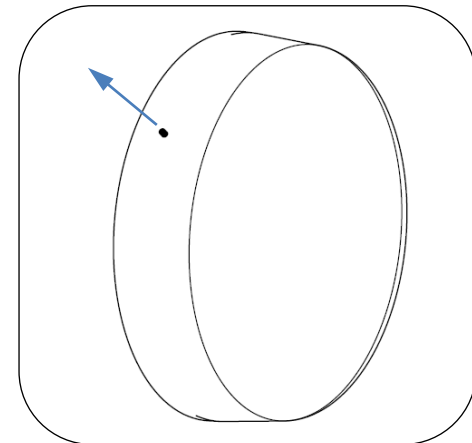

Fig. 2 – back out set screws
2. Remove luminaire dome, see Fig. 2. Back out three set screws to loosen dome. Set aside. Do not fully back out set screws.